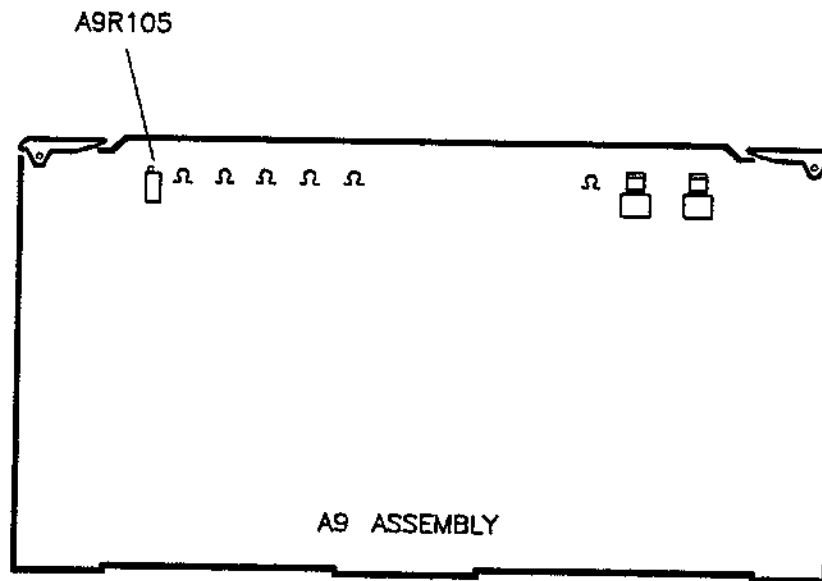

Figure 3-22. A9R105 Location
4. Adjust A9R105 MIN (see Figure 3-22) for  $-0.54$  V DC.